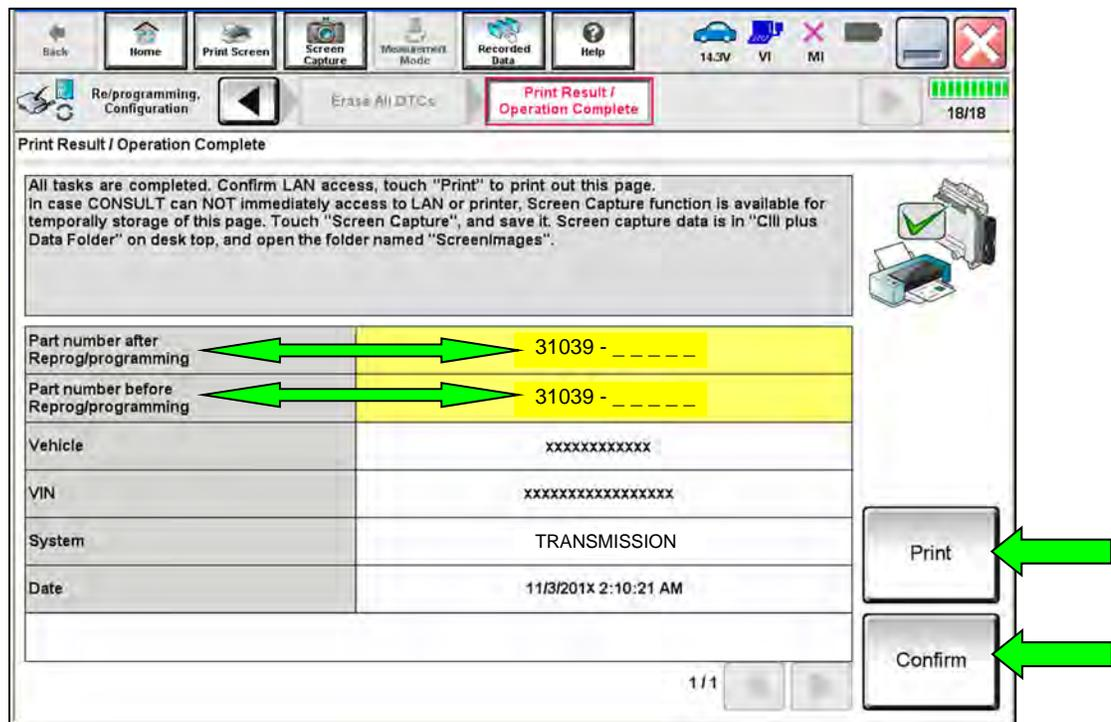

Figure 15
- When the entire TCM reprogramming process is complete, the screen in Figure 15 will display.
19. Print a copy of this screen (Figure 15) and attach it to the repair order for warranty documentation.